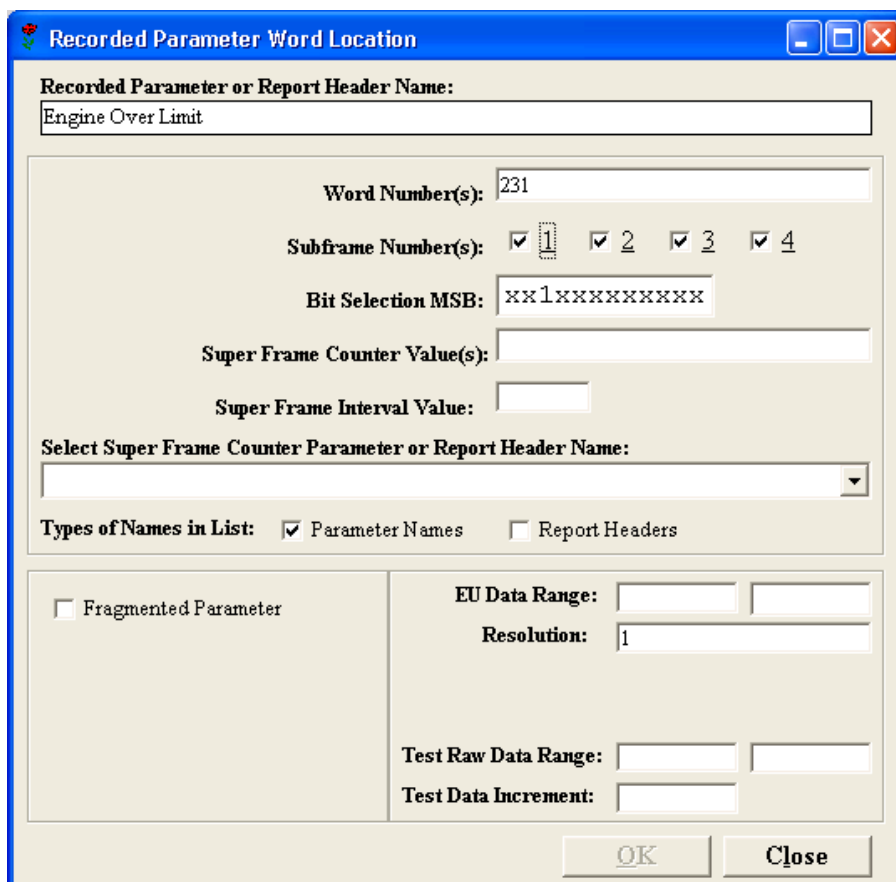

Fig. 5
- Click "Word Location". Check all window items according to the Fig. 5, correct any discrepancies. Return back to the window "Update Database Parameters".